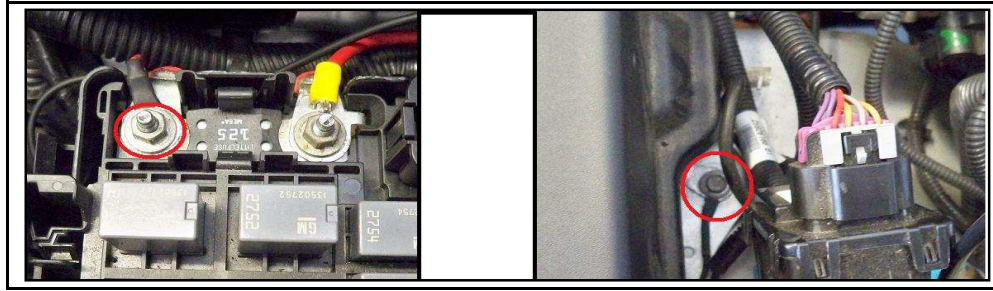

Figure 1 Harness power and ground locations
2. Assemble fan, shroud and relay. The fan should be mounted so that the fan connector is closest to the relay mounting hole. The shroud is drilled for both Derale and Spal fans. Fan mounts with (4) 5/8" long screws and (4) lock nuts. Relay installs with (1) 5/8" long screw and (1) lock nut.
3. Install lower mounting tabs. These tabs will sit in the radiator just like the factory shroud did. The shroud is made for both V8 and I4/I5 radiators. For V8 radiators install tabs so outboard holes are higher than inboard. For I4/I5 radiators install tabs so inboard holes are higher than outboard. Example, the tabs in figure 1 are installed for a V8 radiator. Install tabs with (4) button head screws and (4) locknuts. Screws should be installed with the button head facing towards radiator. See figure 4.
4. Install electric fan kit. The lower tabs will sit in the factory radiator. The (2) Spacers, (4) fender washers, (2) 3" long bolts, and two (2) lock nuts will secure the top of the shroud in the large holes on either side of the radiator. **Important tighten 3" long bolts and lock nuts to 10 ft-lbs MAX.** Tighten just enough to snug things up, the lock nuts will prevent them from coming loose. DO NOT OVERTIGHTEN. Tip : Remove upper radiator support (1) x 13mm bolt to allow radiator to lean making this step much easier.